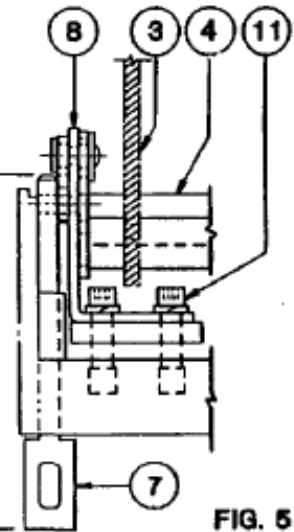

FIG. 5
7. With 9 inch long tie-bar wrench supplied (see Item 3 in Figure 5) positioned over tie-bar connector (Item 4) on left pole rotate tie bar in direction of arrow and drop safety wood block (Item 5) with 1 inch dimension between tie-bar connector (Item 4) and trip unit (Item 6) on right pole so Item 5 comes to rest on the two socket head cap screws as shown in Figure 5. Remove wrench.
8. Select proper length of plunger for desired application and discard one pair of plungers (See Item 7 in Figure 5). Assemble support-tie bar assembly (Item 8) from top and insert plunger through rectangular opening in base from bottom of base. Tie bar member (Item 9), which is a part of Item 8 must engage tie-bar connector (Item 4), plunger locator pin (Item 10) of link assembly (also a part of Item 8) must engage hole in plunger (Item 7). Tighten two 5/16-18 socket head cap screws (Item 11) to 140 in-lbs.